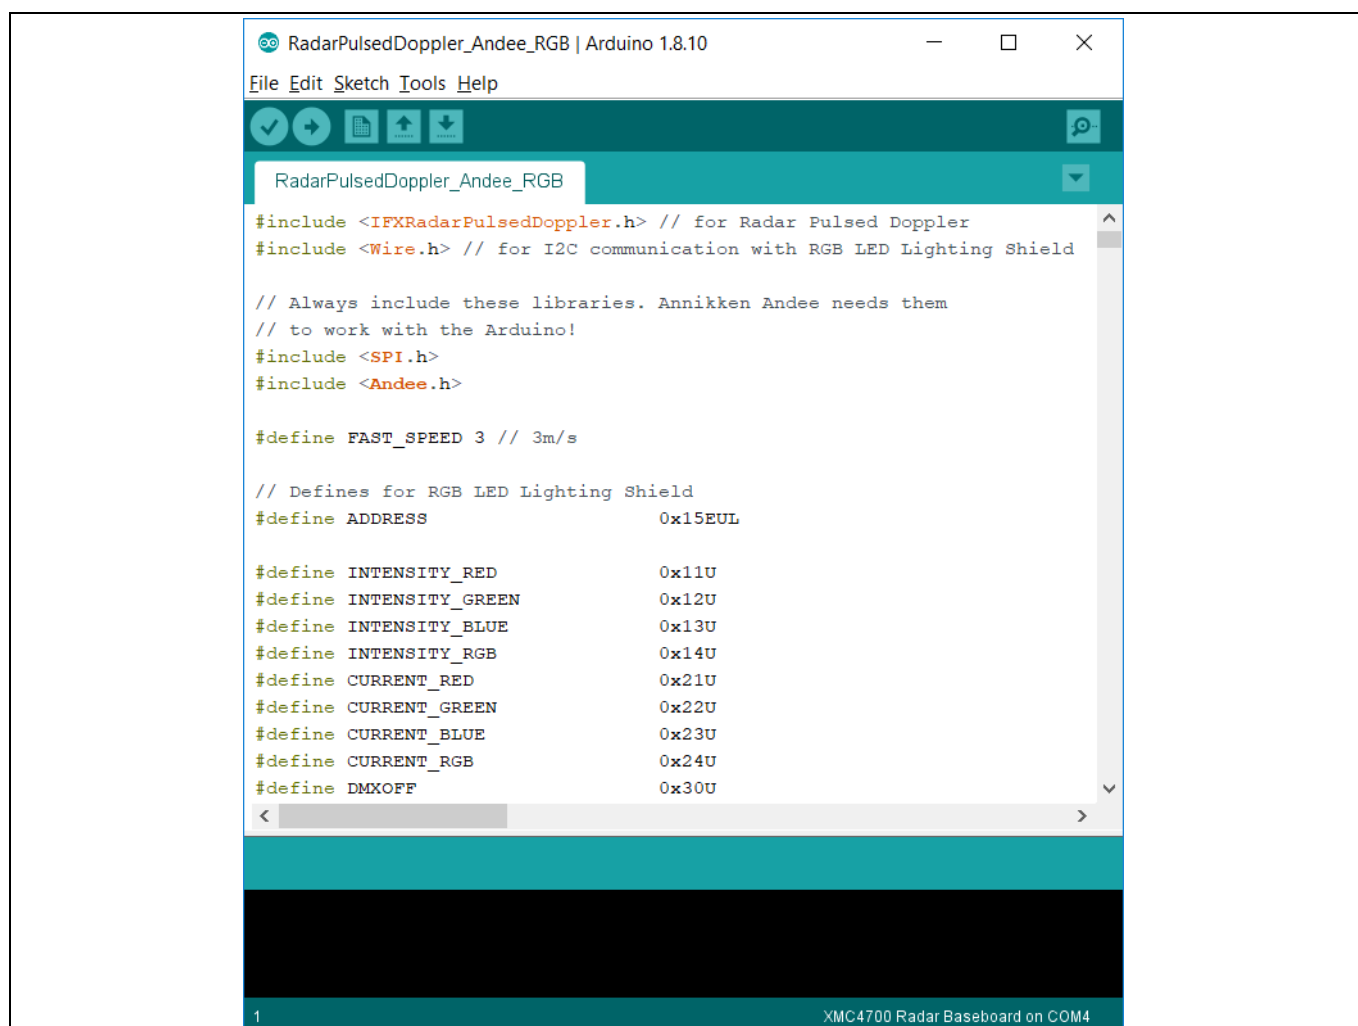

Figure 24 Example sketch: RadarPulsedDopplerLED_Andee_RGB
7. In Arduino IDE, navigate to *File > Examples > IFXRadarPulsedDoppler > RadarPulsedDoppler_Andee_RGB*. The sketch will open (Figure 24).